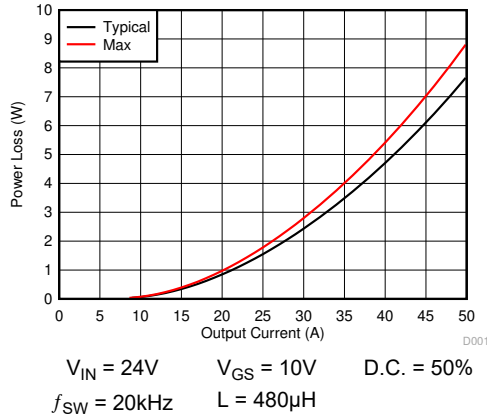
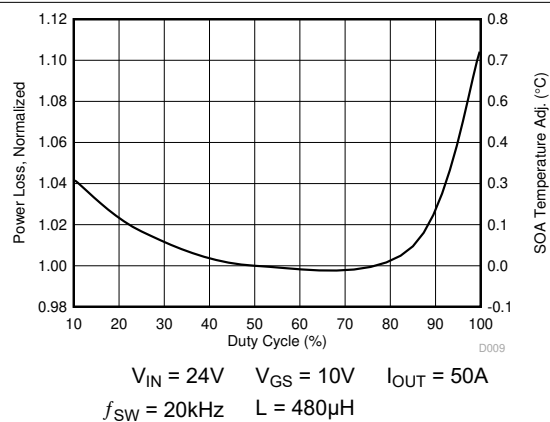

图 4-1. Power Loss vs Output Current
图 4-6. Normalized Power Loss vs Duty Cycle
The typical power block system characteristic curves (图 4-1 through 图 4-6) are based on measurements made on a PCB design with dimensions of 4in (W) × 3.5in (L) × 0.062in (H) and 6 copper layers of 2oz copper thickness. See 节 5 section for detailed explanation. $T_J = 125^\circ\text{C}$, unless stated otherwise.
图 4-1 plots the CSD88584Q5DC power loss as a function of load current. The measured power loss includes both input conversion loss and gate drive loss.
In the example below, we show how to achieve this for the temperatures $T_C = 124^{\circ}\text{C}$ and $T_B = 120^{\circ}\text{C}$. First we draw from 50 A on the Y-axis at 124°C to 120°C on the X-axis. Then, we draw a line up from where this line crosses the T_{χ} line to see that this line intercepts the SOA at 39A. Thus we can assume if we are measuring a PCB temperature of 124°C , and a top case temperature of 120°C , the power block can handle 39A RMS, at the normalized conditions. At conditions that differ from those in 图 4-1, the user may be required to make an SOA temperature adjustment on the T_{χ} line, as shown in the next section.
- Power loss at 40A \approx 4.7W (图 4-1)
- Normalized power loss for duty cycle \approx 1.06 (图 4-6)
- SOA adjustment for duty cycle \approx 0.4°C (图 4-6)